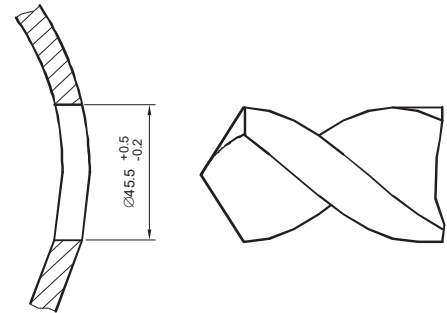

Figure 1-3 Coupling mounting hole
- Make a  $\varnothing 45.5$  mm (+0.5/-0.2 mm) hole in the tank wall or pipe, as shown in Figure 1-3.